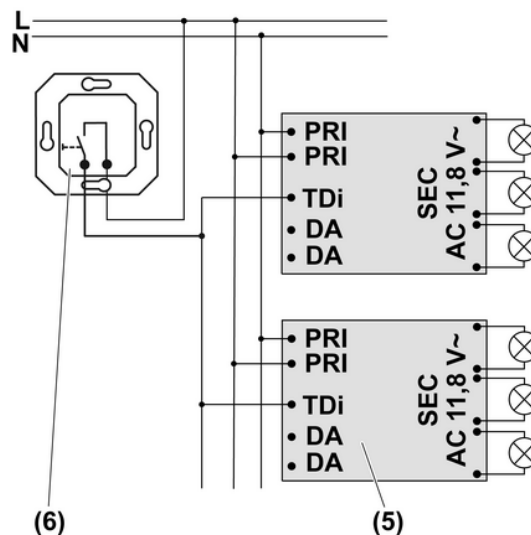

Figure 5: Connection diagram with installation button
- Connect transformer (5) and installation button with NO contact (6) according to connection diagram (Figure 5).